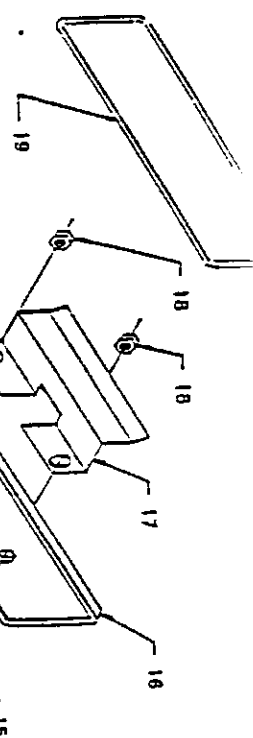

FIG. 10
6. If the fire burns well but sometimes smokes or burns slowly, it may be caused by the chimney top being lower than another part of the house or a nearby tree. The wind blowing over a house or tree falls on top of the chimney like water over a dam, beating down the smoke. The top of the chimney should be at least 2 feet higher than any point of the roof within 10 feet. (Fig. 10)